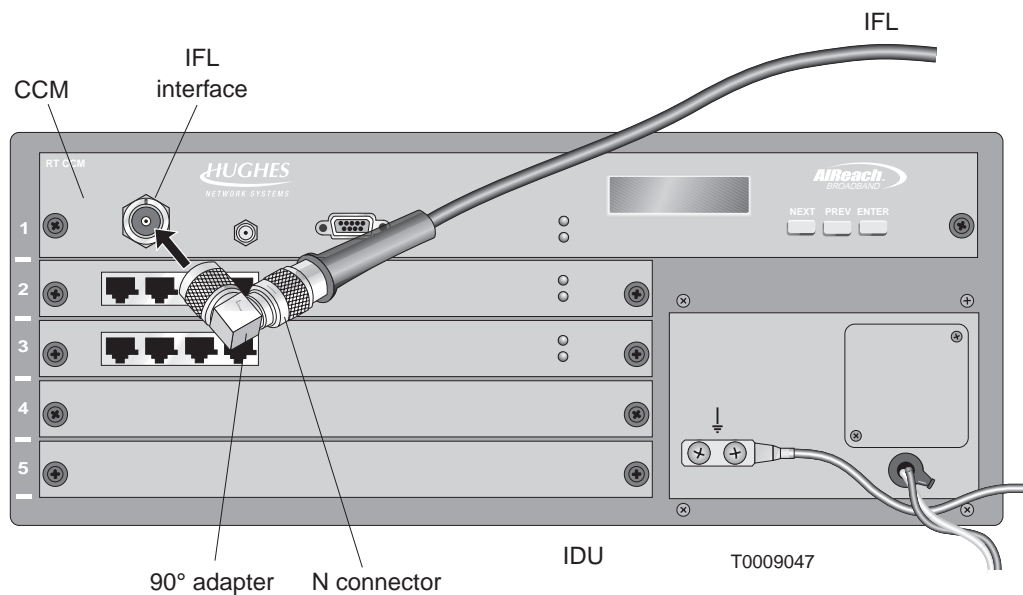

Figure 7-1 Connecting the IFL cable
3. Using a 90° adapter, connect the IFL (N connector) to the CCM IFL interface, as shown in figure 7-1.